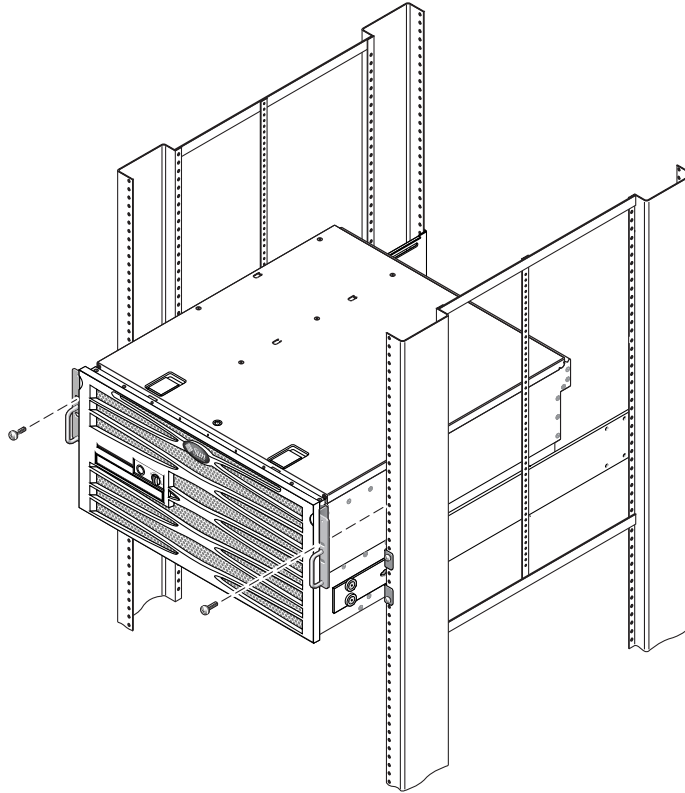

FIGURE 3-14 Securing the Front of the System to the Rack
15. Using one screw per side, secure the front of the hardmount brackets that are attached to the sides of the server to the front of the rack (FIGURE 3-14).